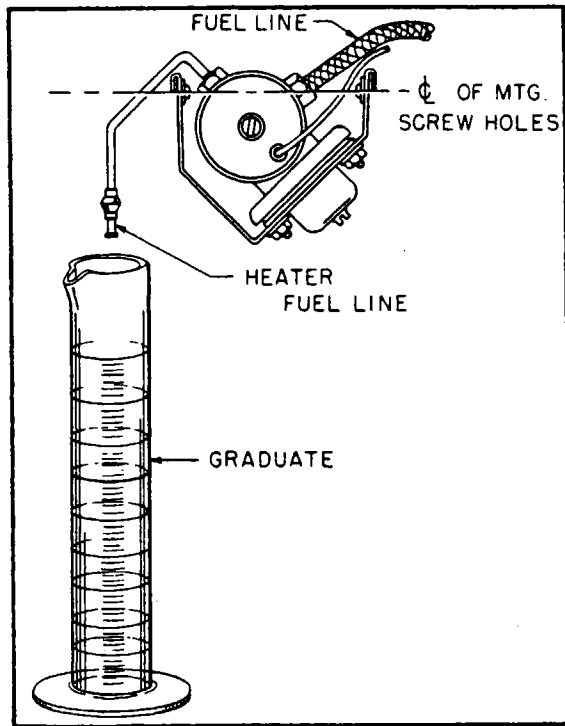

Figure 13-36. Fuel Flow Test Set-Up
- d. A glass graduate of the type shown in Figure 13-36 is required for testing the fuel control valve, unless a flow meter is available in the fuel supply line.
- b. Install the short heater fuel line (Figure 13-31, Ref. 17) in the fuel control valve outlet, in its normal position. Support the valve in its normal mounting position (Refer to Figure 13-36. ) so that fuel from the fuel line will drip into a glass graduate.
13-133. FUEL CONTROL VALVE. Check fuel flow through the valve, as follows, using the test set-up illustrated in Figure 13-36.